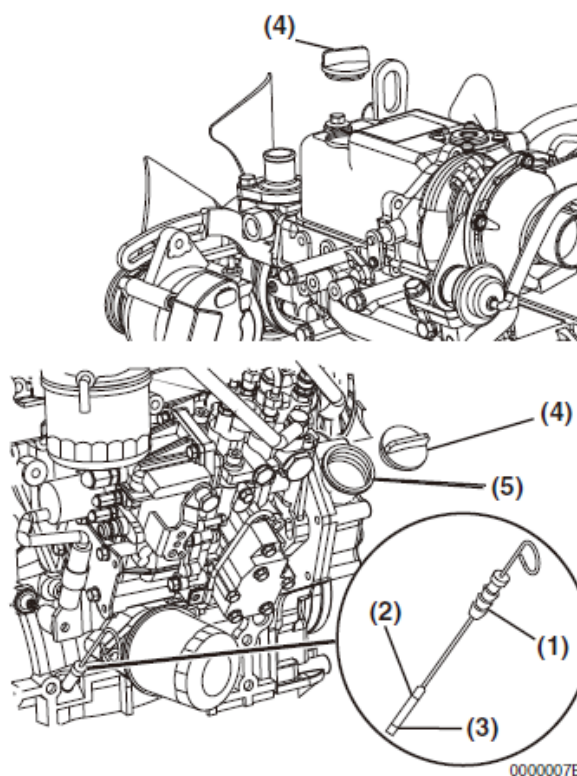

Fig.9-5
8. Add engine oil to engine oil filler port (**Fig.9-5, (5)**) as needed until the level is between the upper (**Fig.9-5, (2)**) and lower lines (**Fig.9-5, (3)**) shown on the dipstick (**Fig.9-5, (1)**).
9. Reinstall the oil filler cap (**Fig.9-5, (4)**). If any engine oil is spilled, wipe it away with a clean cloth.